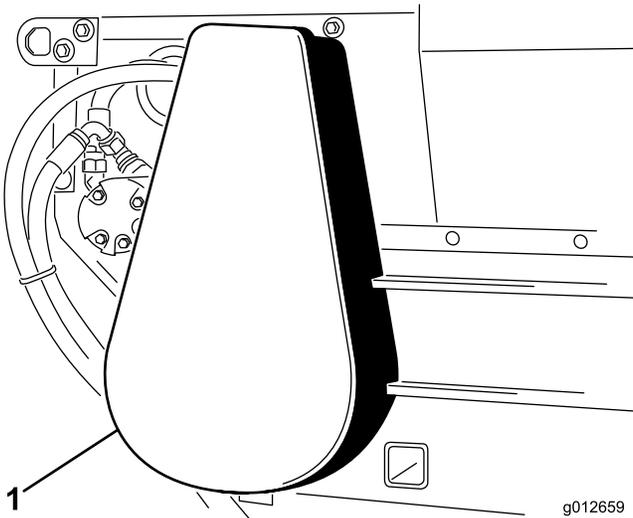

Figure 20
- 1. Remove chain cover (Figure 20).